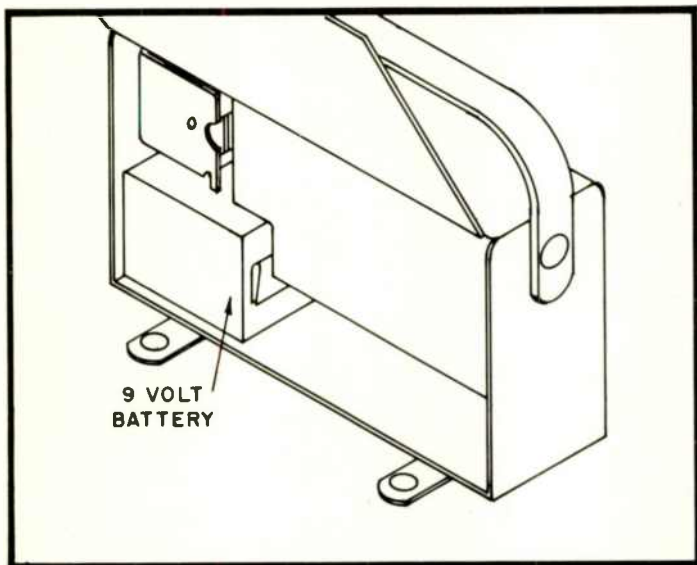

FIG. NO. 8
- () 34. Remove the tuning knob and apply a generous amount of glue (such as Elmer's glue) to rough side of masonite mounting board and place in cabinet. Make sure that volume knob lines up with slot in cabinet and tuning capacitor shaft lines up with holes in cabinet. *See Fig. No. 8.* Allow glue to dry thoroughly, then push tuning knob on tuning capacitor shaft.